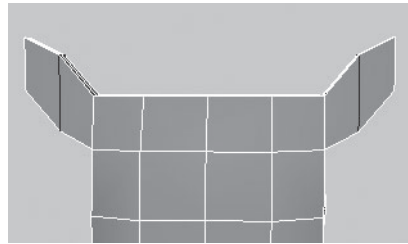

FIGURE 3.75 The arm's edge loops scaled.
13. Press R to change to the Scale tool and scale the selected edge's loop a bit on the Y axis, as shown in Figure 3.75.